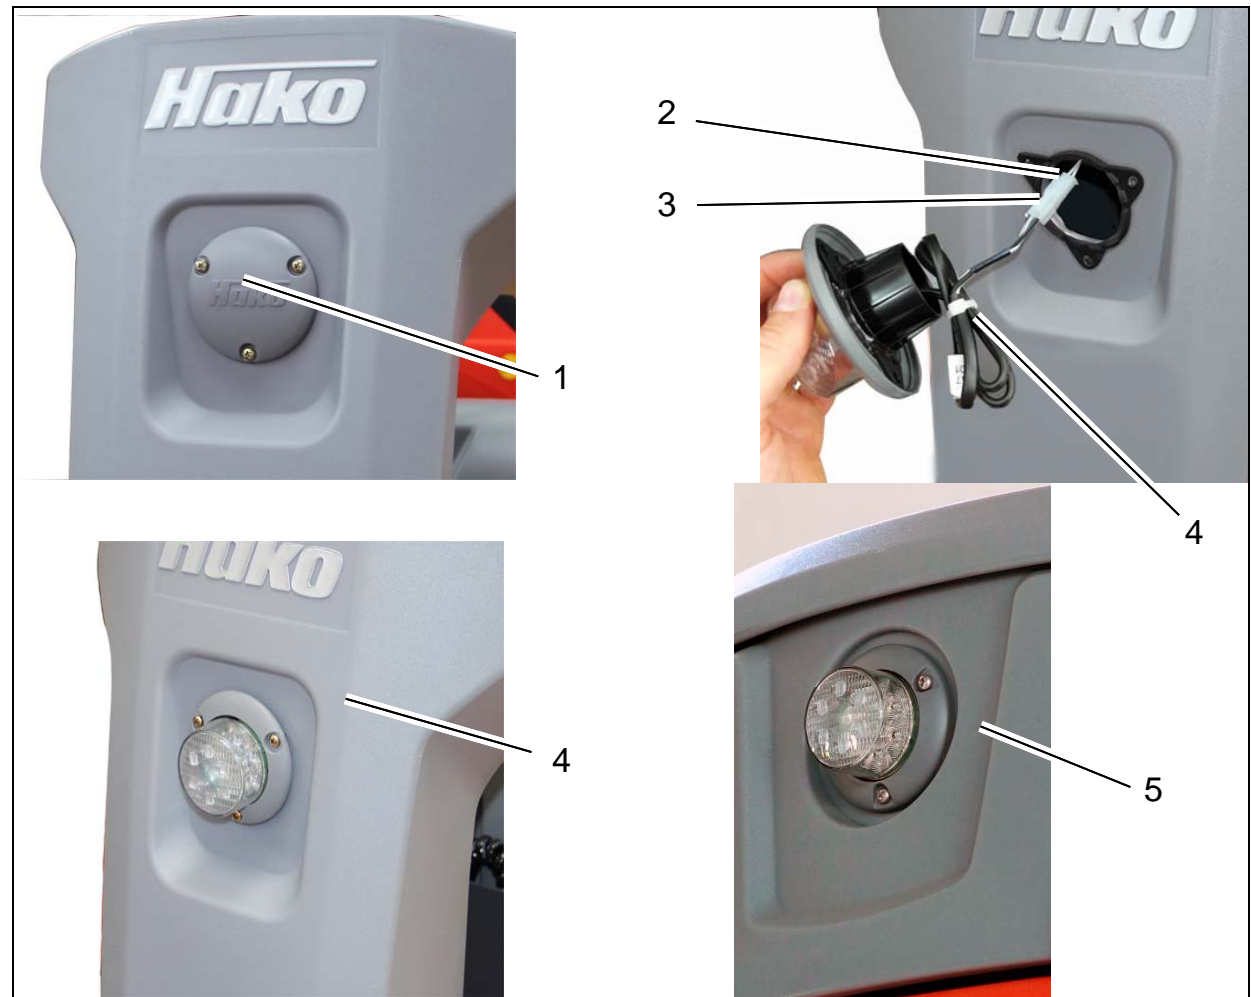

Fig.1
1. Remove the cover (Fig. 1/1) at the steering column together with the bolts (are no longer required).
2. Slightly pull the cable with plug E02 (Fig. 1/2) out of the opening and connect it to the plug of the LED lamp (Fig. 1/3).
4. Attach the LED lamp with decorative ring and EJOT bolts to the steering column (Fig. 1/4) or at the back of the lid (Fig. 1/5) with a tightening torque of 1.1 Nm.